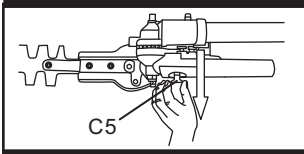

Fig. 16a
a). Pull the locking pin (C5) out. (See Fig. 16a)